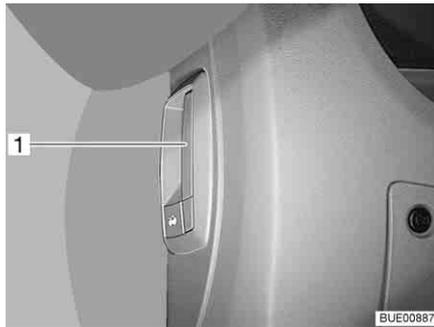

Fig. 38 Release lever for the bonnet (inside the vehicle)
- Pull the lever (Fig. 38,1) on the left under the dashboard or next to it.